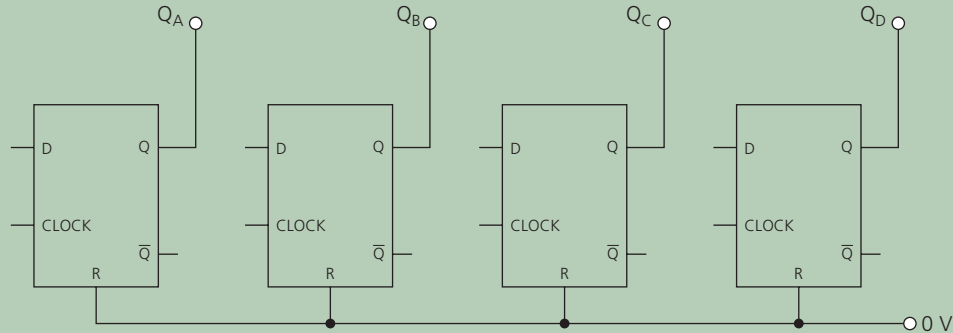

Figure Q5
4. Copy and complete the circuit diagram in Figure Q5 for a four-bit shift register. Label the data input and clock input to the shift register.